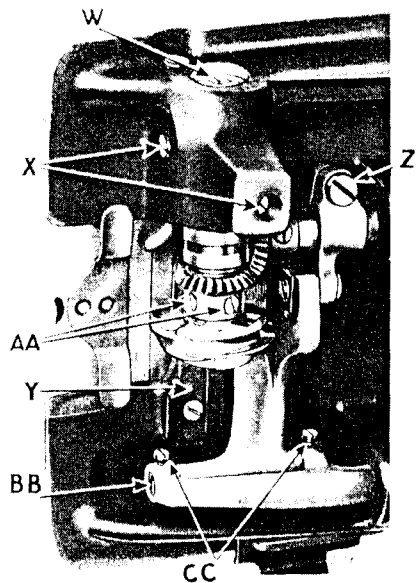

Fig. 19
The point of the hook should come as close as possible to the needle without touching it. Loosen the four screws (X and AA, Fig. 19) and slide the hook to the correct position, then tighten the two screws (X). Reset the gear on the hook shaft and tighten screws (AA).
Remove the bobbin case stop (Y, Fig. 19), loosen the hook spindle screw (W, Fig. 19) a few turns and tap it lightly to loosen the hook. Then remove the screw (W) and withdraw the hook from its socket.
Remove the throat plate; clean the lint and dirt from between the feed points and replace the throat plate; tip the machine back and turn the balance wheel toward you until the feed dog is at its highest position; loosen screw (Z, Fig. 19) and raise or lower the feed dog as required, then tighten the screw (Z).
Loosen the two screws (CC, Fig. 19) and turn the eccentric stud (BB, Fig. 19) to level off the front and back of the feed dog, then tighten the screws (CC).